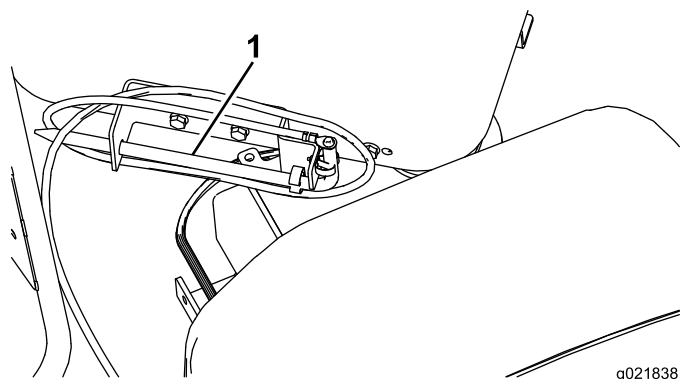

Figure 64
8. Store the grounding stake in the holder on the operator platform as shown in Figure 64.